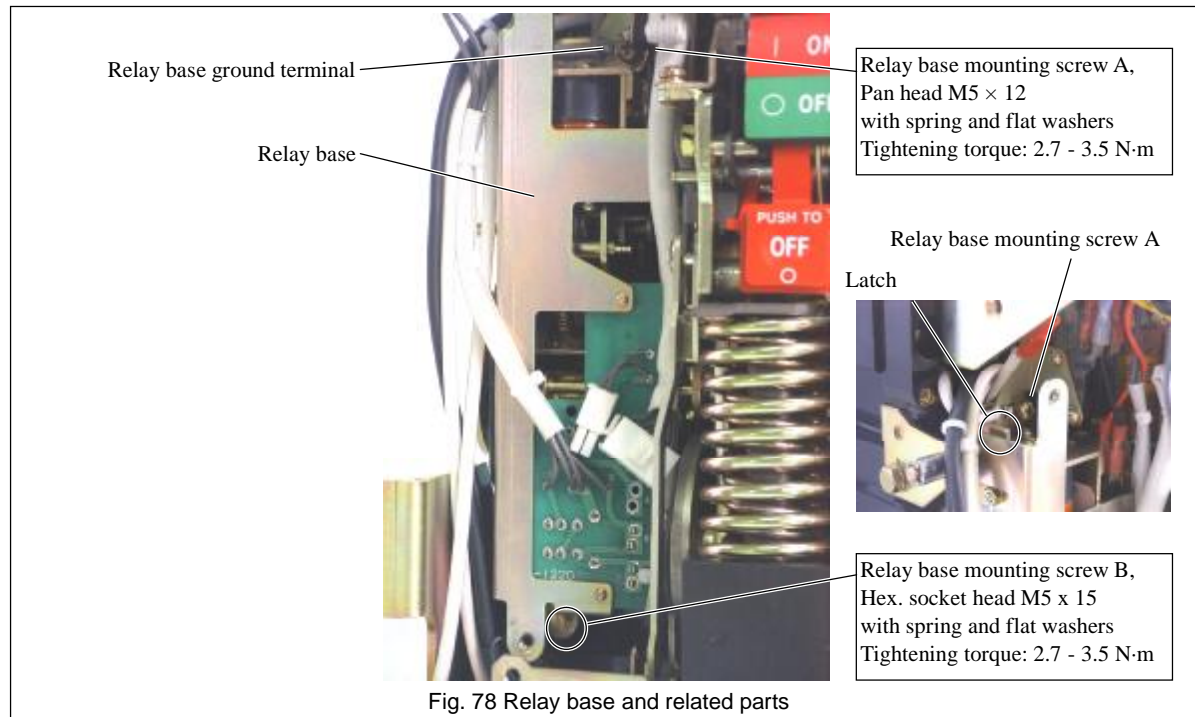

Fig. 78 Relay base and related parts
- 8) Unscrew relay base mounting screws A and B, raise the relay base to unlatch from other parts, remove the base and place it on the top of the breaker body. To remove relay base mounting screw B, use a ball end type 4-mm Allen wrench. See Fig. 78.